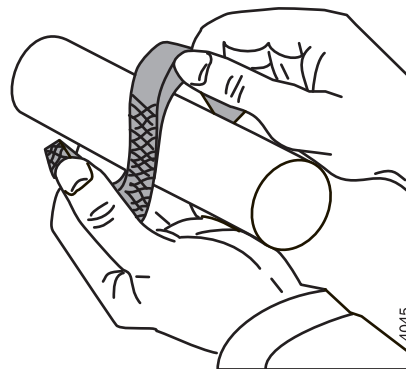

Figure 4: Bending open of a stuffing box packing ring.
- 2 Bend the packing rings axially open, see figure 4 and fit these around the pump shaft. Ensure that the cuts are always at 90° with regard to each other.